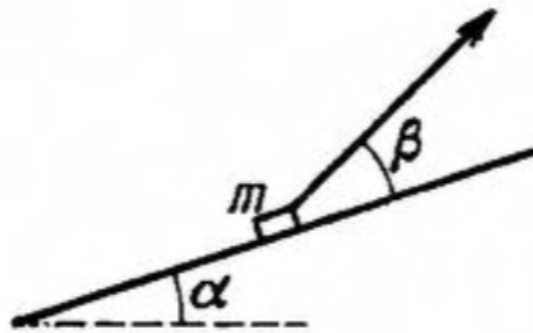

Figure 4: Mass pulled up on incline
3. A bar of mass  $m$  is pull up by means of a thread up an inclined plane forming an angle  $\alpha$  with the horizontal (see figure 4). The coefficient of friction is equal to  $k$ . Find the angle  $\beta$  which the thread must form with the inclined plane for the tension of the thread to be minimum. What is it equal to? (Irodov)